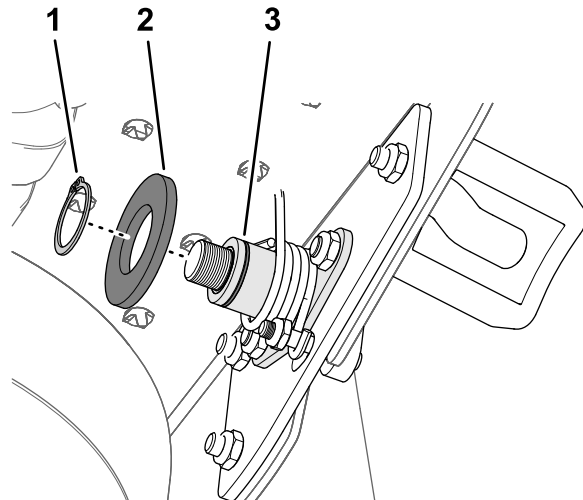

Figure 14
13. Secure the torsion spring to the bushing plate with a flat washer (1-1/8 x 2 inch) and a retaining ring (Figure 14).